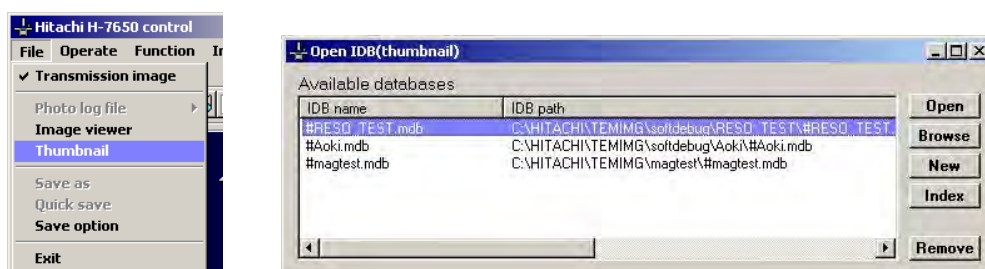

Fig. 3-23 Thumbnail Menu and Open IDB (thumbnail) Window
(1) Activation of Thumbnail
- (a) As shown in Fig. 3-23, select Thumbnail from the File menu in the Hitachi H-7650 control window. The Open IDB (thumbnail) window will open. Listed IDB names stand for databases created at the time of image saving. They are especially referred to as IDB. Every image is managed in a master database for each folder. For the file name, a folder name is automatically registered. “#TEMIMG.mdb” is registered at default. In case of image saving in a different folder, a new master database is created for image management for the folder.
In Fig. 3-23, select an IDB name and click the Open button. The registered images will be displayed on the Thumbnail window as shown in Fig. 3-24.